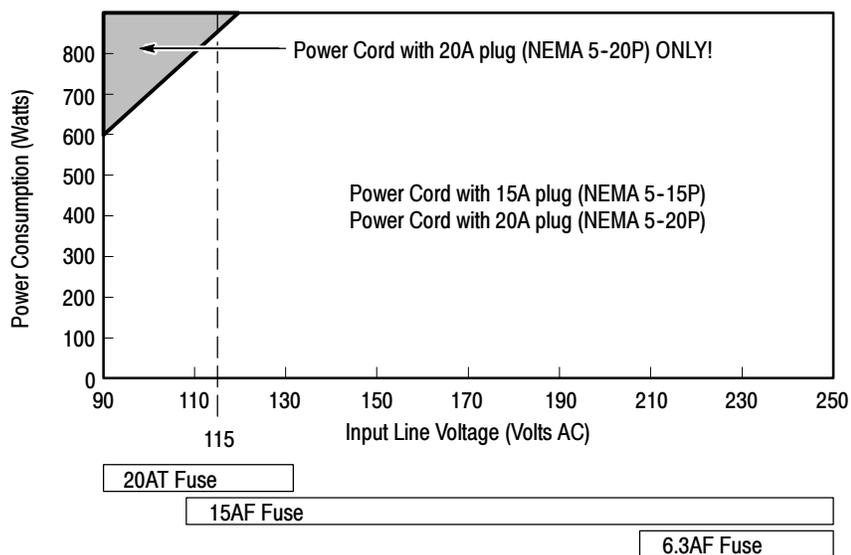

Figure 29: Power cord identification chart
4. Refer to Figure 29 on page 57 to determine the proper power cord and line fuse for your mainframe.
For power usage in the unshaded region of Figure 29, use either the power cord with the 15 A plug (two parallel prongs and ground) or the power cord with the 20 A plug (two perpendicular prongs and ground).
For high power usage combined with low input line voltages (shaded region), use only the power cord with the 20 A plug. Select the proper fuse based on the ranges shown in Figure 29.
Because the power consumption (at 90 VAC) is approaching the shaded area of the graph in Figure 29, you should consider using the 20A power cord.